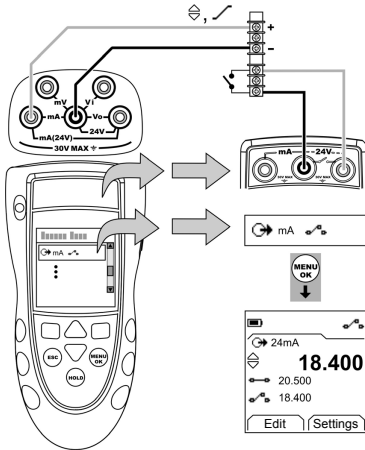

Figure 5: Example configuration - Switch test
1. Connect the instrument (Figure 5) and, if necessary, adjust the *Set Up* (Table 1).